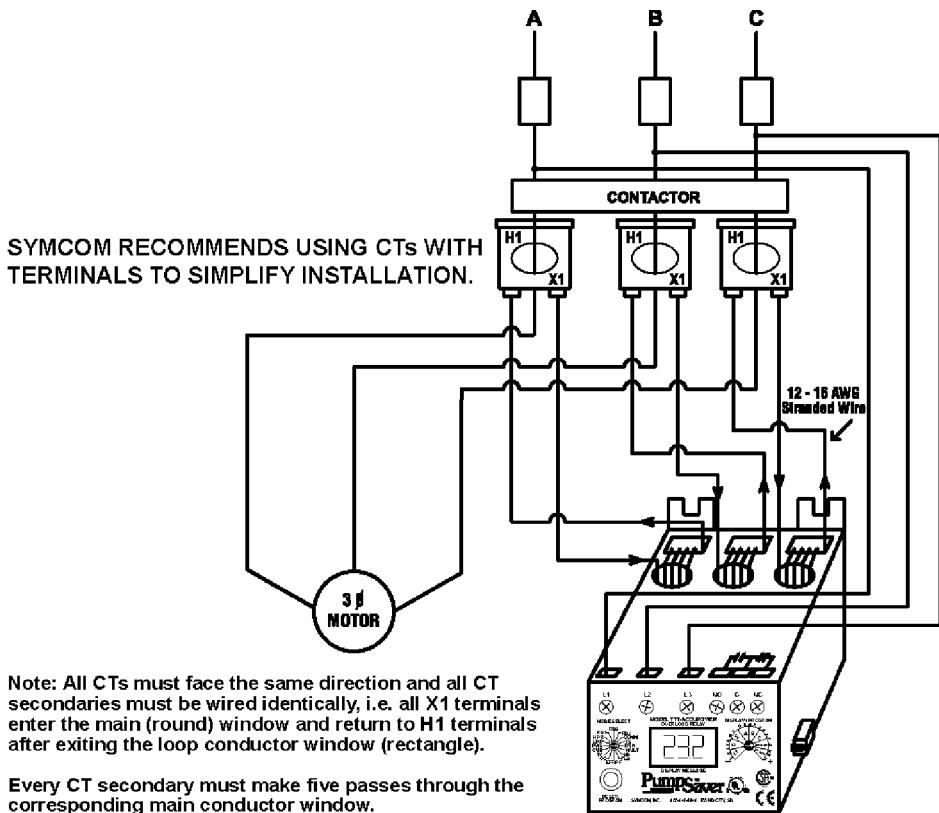

Figure 3. Typical Wiring Diagram Using External CTs
C) For amperage greater than 90 amps, external CTs (current transformers) are required. SymCom recommends using CTs with terminals to simplify installation. All CT secondaries must make five passes through the round holes on the PumpSaver. See Figure 3 for a typical wiring diagram using external CTs.